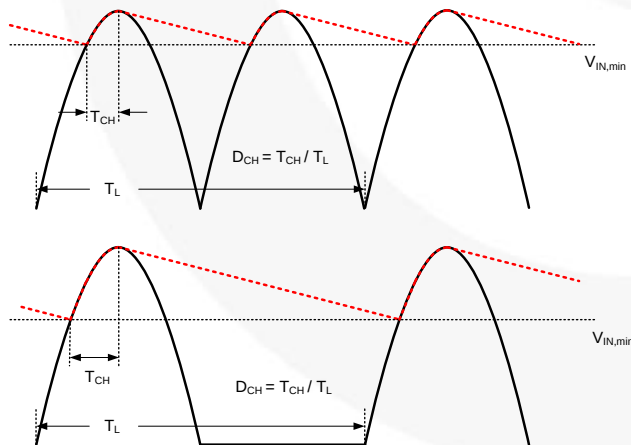

Figure 13. Bridge Rectifier and Bulk Capacitor Voltage Waveform
The DC link capacitor is selected by rectification type and input voltage range. For full-wave rectification, it is typical to select the DC link capacitor as 2-3 μ F per watt of input power for universal input range (85-264 V_{AC}) and 1 μ F per watt of input power for European input range (195-264 V_{AC}). DC link capacitance of half-wave rectification is twice full-wave rectification: 4-6 μ F per watt of input power for universal input range (85-264 V_{AC}) and 2 μ F per watt of input power for European input range (195-264 V_{AC}). Figure 13 shows the input voltage waveform of full-wave and half-wave rectification.
where D_{CH} is the DC link capacitor charging duty ratio defined, as shown in Figure 13; which is typically about 0.15 for full-wave rectification and about 0.3 for half-wave rectification. Equations (2) and (3) are minimum link voltage of full-wave and half-wave rectification, respectively, and Equation (4) is maximum link voltage.